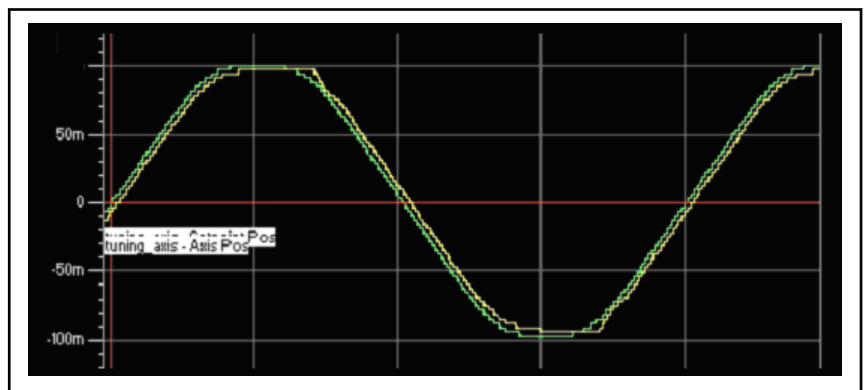
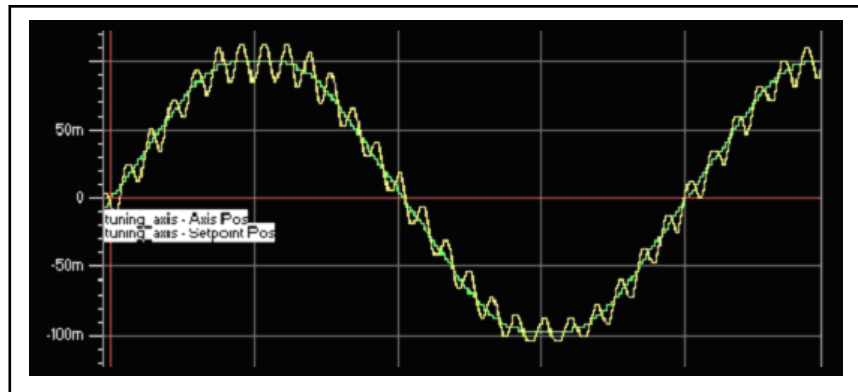

Fig. 4-57: *Tuning the proportional gain of the position loop - increase K_P*
Fig. 4-58: *Tuning the proportional gain of the position loop - increase K_P more*
8. Increase the proportional gain of the position loop K_P until the axis position plot shows an oscillation (see fig. 4-57 "Tuning the proportional gain of the position loop - increase \$K_P\$ " on page 183 and fig. 4-58 "Tuning the proportional gain of the position loop - increase \$K_P\$ more" on page 184). Count the number of oscillations (per second) in the position error plot (or use the FFT plot of the position error to determine the frequency of this oscillation).